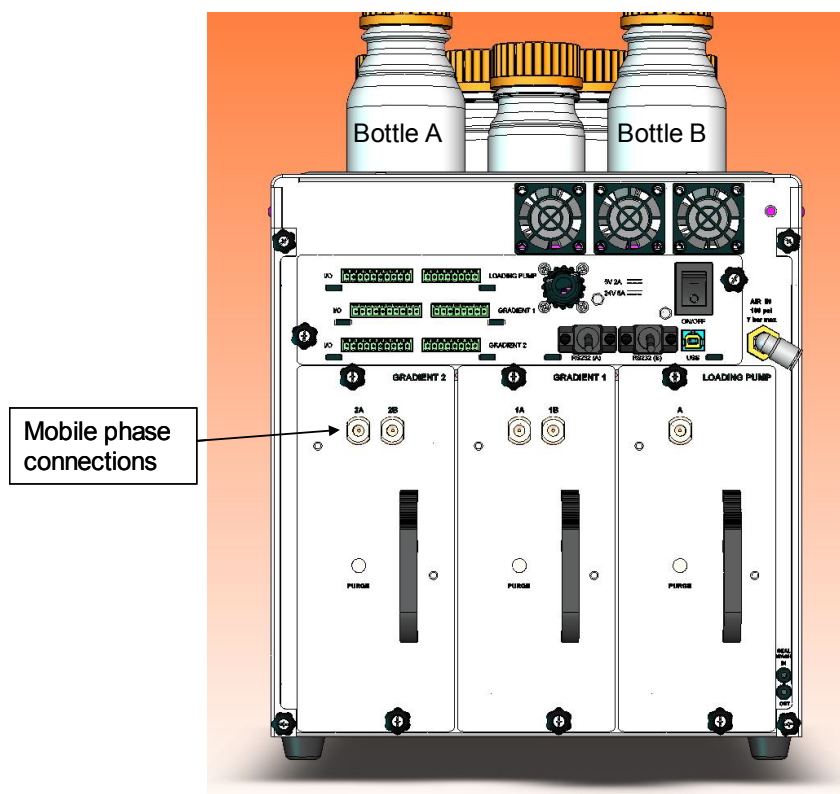

Figure 3-3 Back Panel—Bottles and Mobile Phase Connections for the NanoLC Ultra-2D System
3. Connect mobile phase tubing to the mobile phase connections in the back of the system. (Figure 3-3).